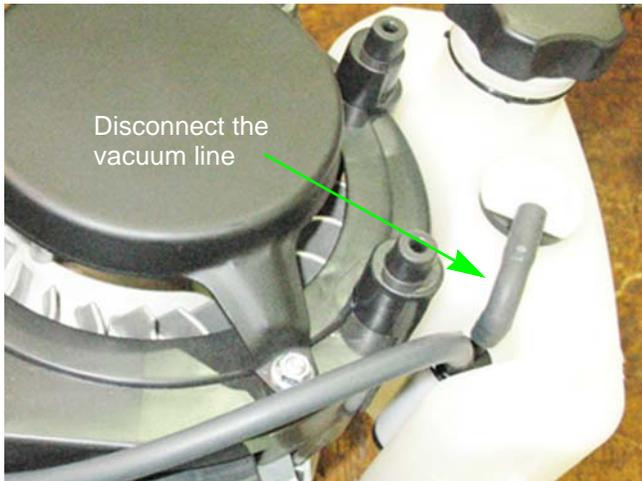

Figure 4.21
1. Disconnect the vacuum line. See Figure 4.21.